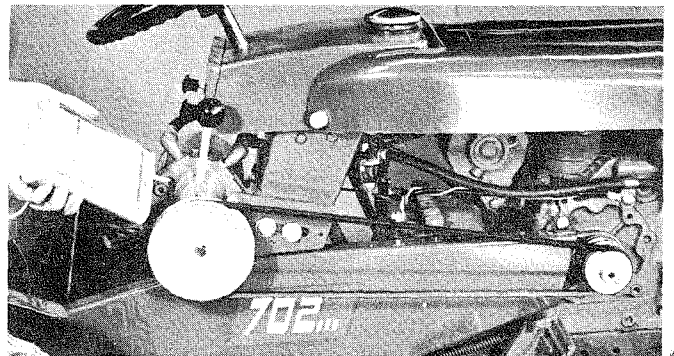

Figure 5
9. Bolt pump to pump mounting bracket using the $\frac{3}{8}$ -16 x $\frac{3}{4}$ Hex Head Cap Screw, $\frac{3}{8}$ Lock Washers and $\frac{3}{8}$ Flat Washers. Do not tighten at this time. See Figure 5.
13. Remove the allen screw from the side of pump and fill pump with the (3) cans of hydraulic fluid as shown in Figure 5. After filling replace and tighten screw.